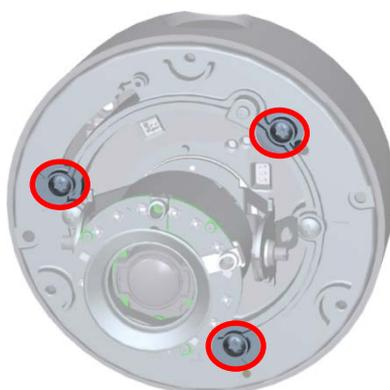

Figure 2
4. Loosen the three screws marked with a triangle on the camera assembly as seen in Figure 2.